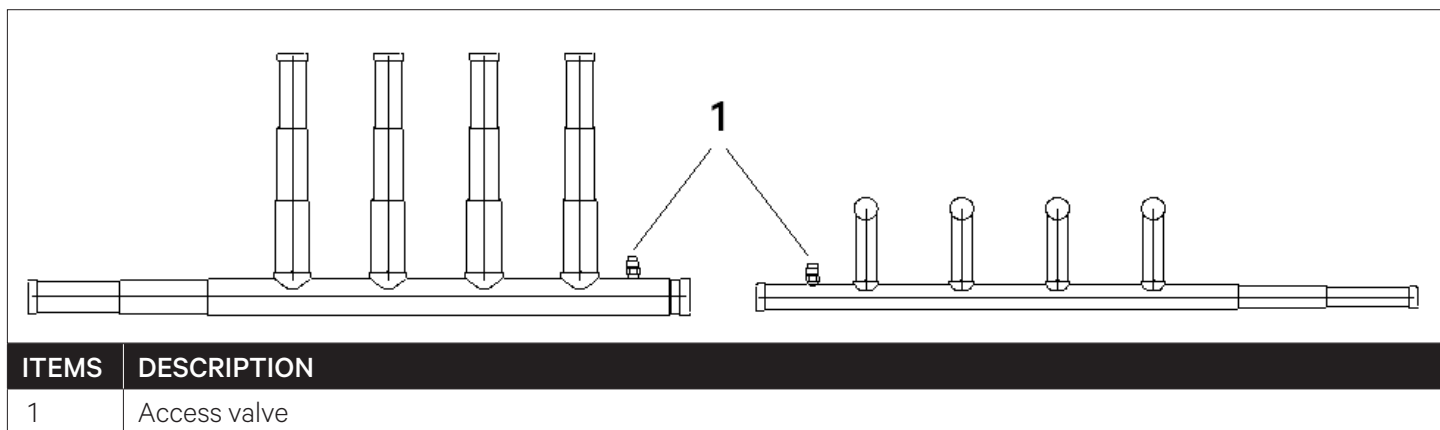

Figure 2-19 Oil Injection Schrader Valve
5. Recharge the refrigerant oil for each system through the schrader valve reserved on the branch manifold, as shown in Figure 2-19.